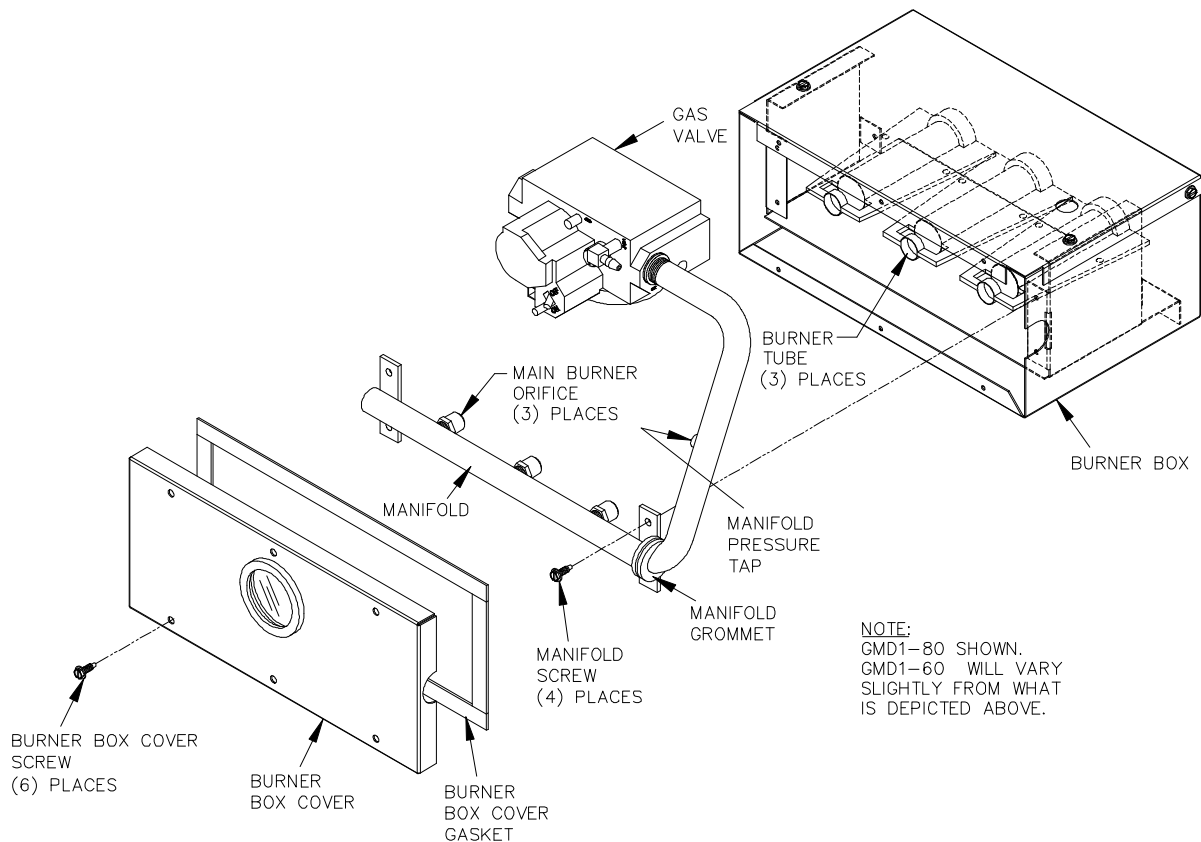

Figure 2.
4. Remove the four screws securing the manifold in the burner box. Pull the manifold far enough out of the burner box to access the burner orifices. (See figure 2)
7. Reinstall the manifold into the burner box. Make sure that all the orifices go into their respective burners. Make sure the groove of the rubber grommet on the manifold lines up on the edge of the burner box to seal around the manifold. Secure the manifold with four screws. (See figure 2).